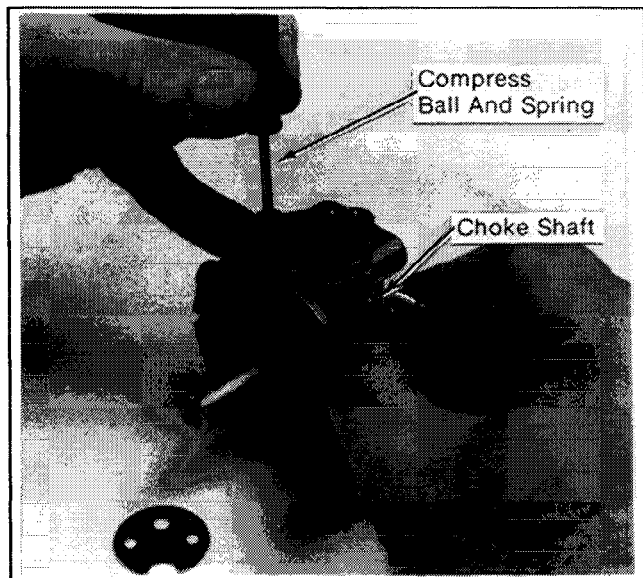

Figure 6-12. Installing Choke Shaft.
2. Compress detent ball and spring and insert choke shaft through bushings. Make sure the choke lever is on the correct side of the carburetor body. Refer to Figure 6-12.